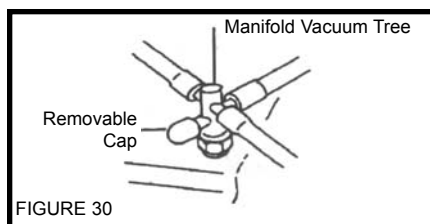

FIGURE 30
2. Manifold Vacuum Tree usually with an extra vacuum port with removable cap. **Figure 30**